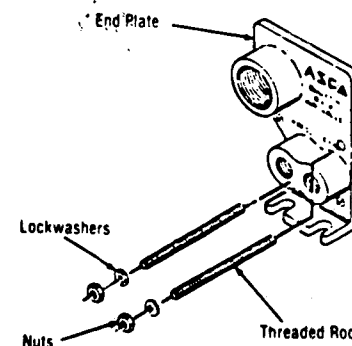

Figure 7-16. DISASSEMBLING 3-WAY SOLENOID VALVES.
4. Remove the threaded rods which secure the seven solenoid valves together. See Figure 7-16.